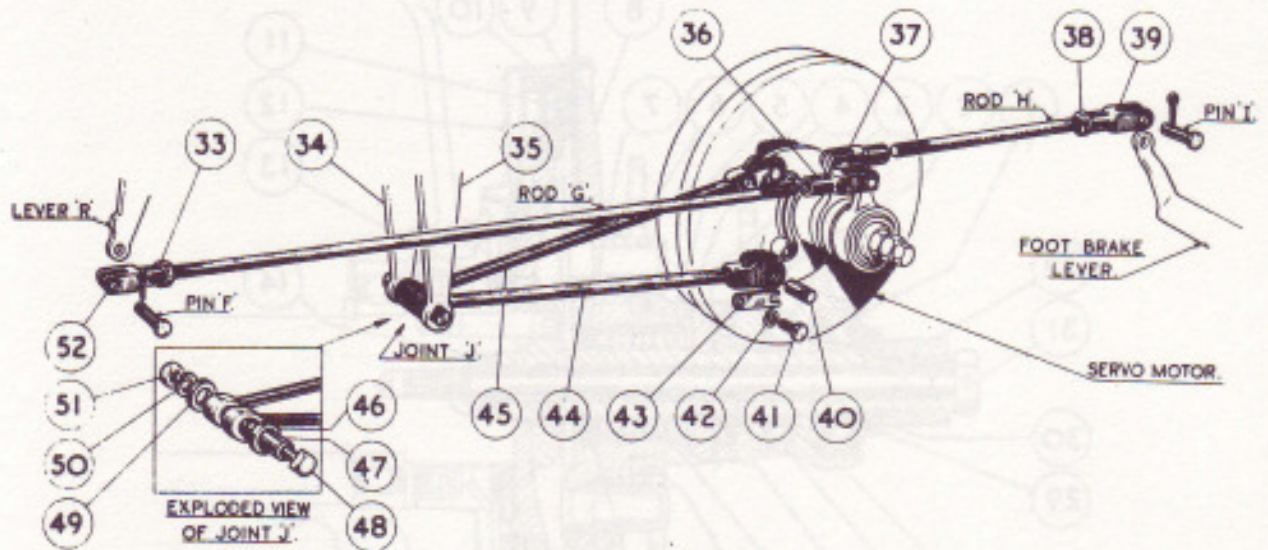

FIG. 22. SERVO CONNECTIONS.
- (ii) Check for tightness locknut (38, Fig.22). Remove pin from jaw (39), and without disturbing position of jaw, screw out pull rod 'H' from jaw (37).
- (iii) Check for tightness locknut (33). Remove pin from jaw (52), and without disturbing position of jaw, screw out pull rod "G" from jaw (36).
- (iv) Remove bolt (48) from joint 'J' (see "Exploded view of joint 'J' on Fig.22), in order to release the rear end of drag links (44) and (45). This will allow servo to be rotated to the most advantageous position for uncoupling the front end of the drag links from the two inner servo levers, as follows:-
- (vi) Place inner lever sub-assembly (26) on to the bell cage (2), grease the recesses of the inner lever and replace the three .3125" dia. balls (27).
- (vii) Fit outer lever sub-assembly (1 and 28) on to the servo shaft, in correct relation with the inner lever (see Fig.22), followed by the plain washer (29) and the two nuts (30 and 32). Screw up together until approximately one thread of the servo shaft protrudes through the outer nut (32). Lock together temporarily in order to provide a means of rotating the shaft when assembling the servo motor to the gearbox. Remove servo shaft from the vice.
- (viii) Place driving plate sub-assembly (10) on to the servo shaft, then fit the spring plate (12) to the pressure plate (8), ensuring that the tab of the spring plate engages in the single lower slot in the pressure plate.
- (ix) Place protector (20) in position as follows, take care not to distort protector while fitting it: